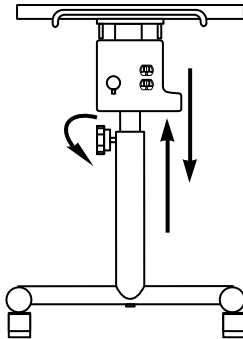

Figure 15. Cart Height Adjustment
***The cart is very heavy.** Cart height adjustment requires two people to safely complete. Securely hold the cart top so it will not drop and loosen the knob (see Figure 15).*